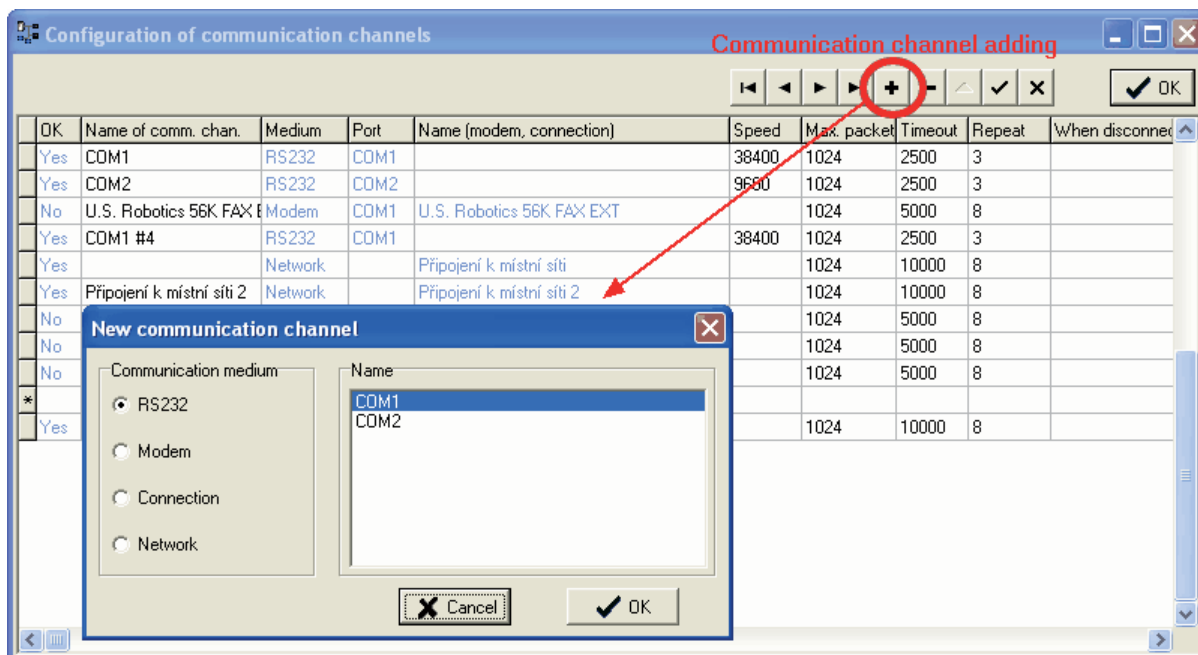

Fig. 26: Adding of new communication channel
- control of computing algorithm and gas composition setting (see Fig. 26)
- In case of adding a new device in to the set service SW is possible to choose already defined communication channel or define a new communication channel with the button “+” see Fig. 26.